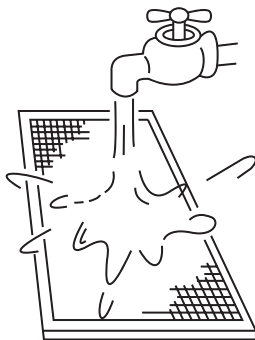

fig.9-4
- The air-in side should face down when using water. (See fig.9-4)